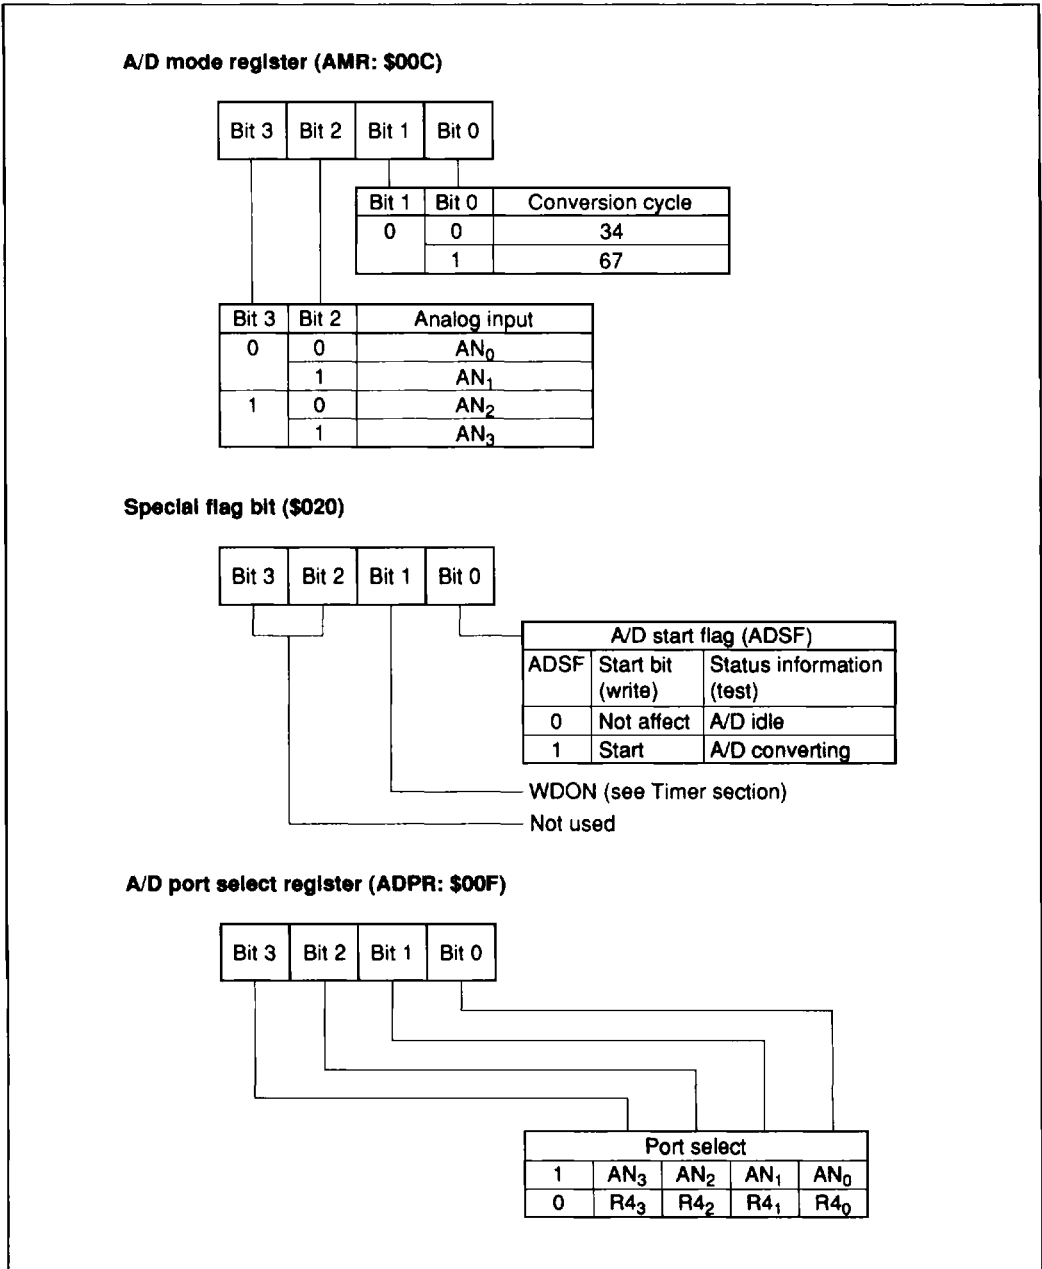

Figure 16 A/D Register Configuration
**A/D Mode Register (AMR: \$00C):** The A/D mode register (figure 16) is a 4-bit write-only register which selects the A/D conversion speed (bit 0, bit 1) and analog input channel (bit 2, bit 3).
**A/D Start Flag (ADSF: \$020, Bit 0):** A/D conversion is started when a 1 is written to the A/D start flag (figure 16). After a conversion is completed, the conversion data is set in the A/D data register and the A/D start flag is cleared simultaneously.
A/D Port Select Register (ADPR: \$00F): The A/D port select register (figure 16) is a write-only